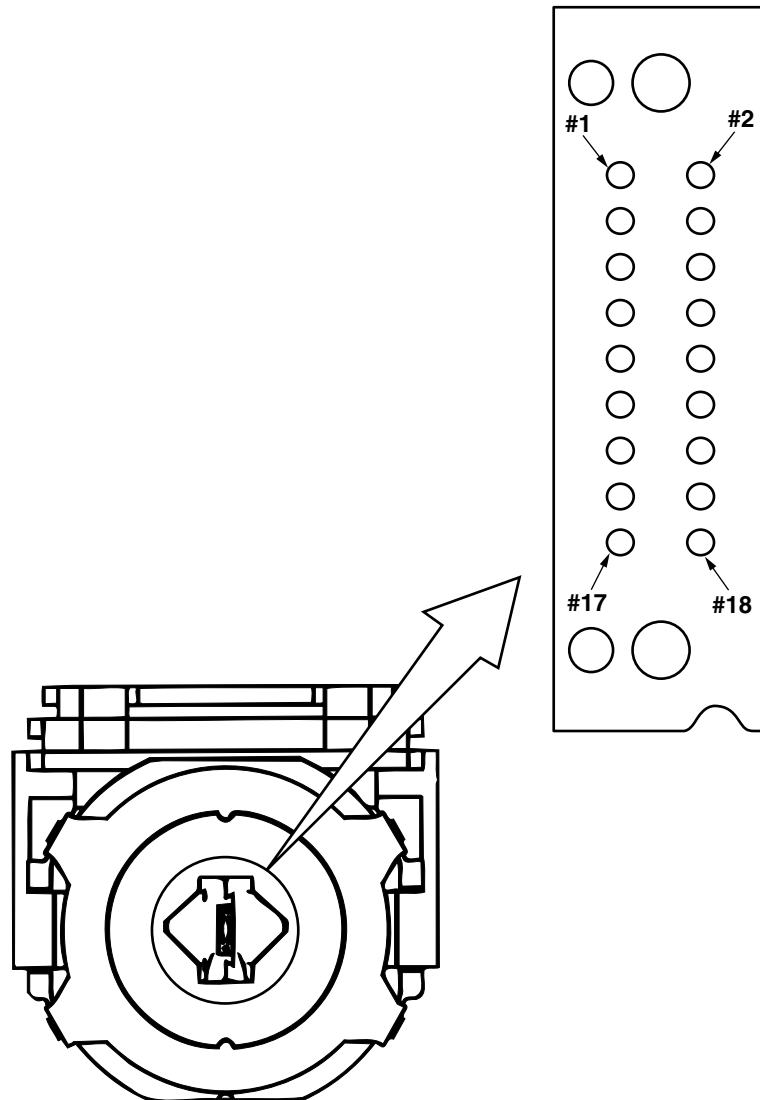

Figure 12-2. Head Pin Arrangement
12.3.1 Mechanism and Actions of the Print Head (See Figures 12-2 & 12-3.)